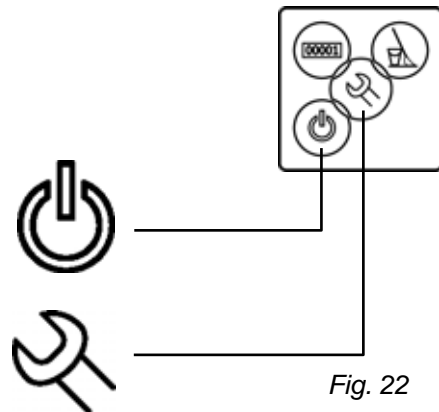

Fig. 22
7.6 Manual blocking functions (fig. 22)